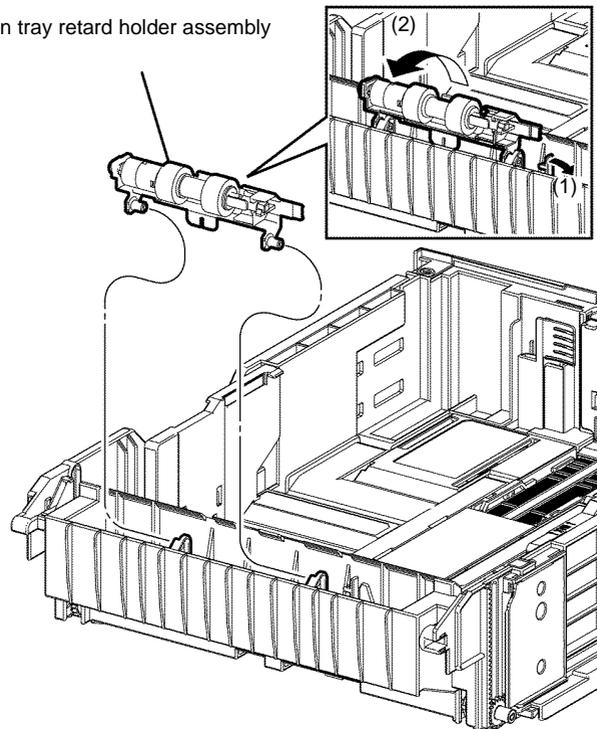

Figure 1 Retard roll holder assembly removal
3. Release the two bosses on the retard holder assembly, and then remove the retard roll holder assembly, Figure 1.